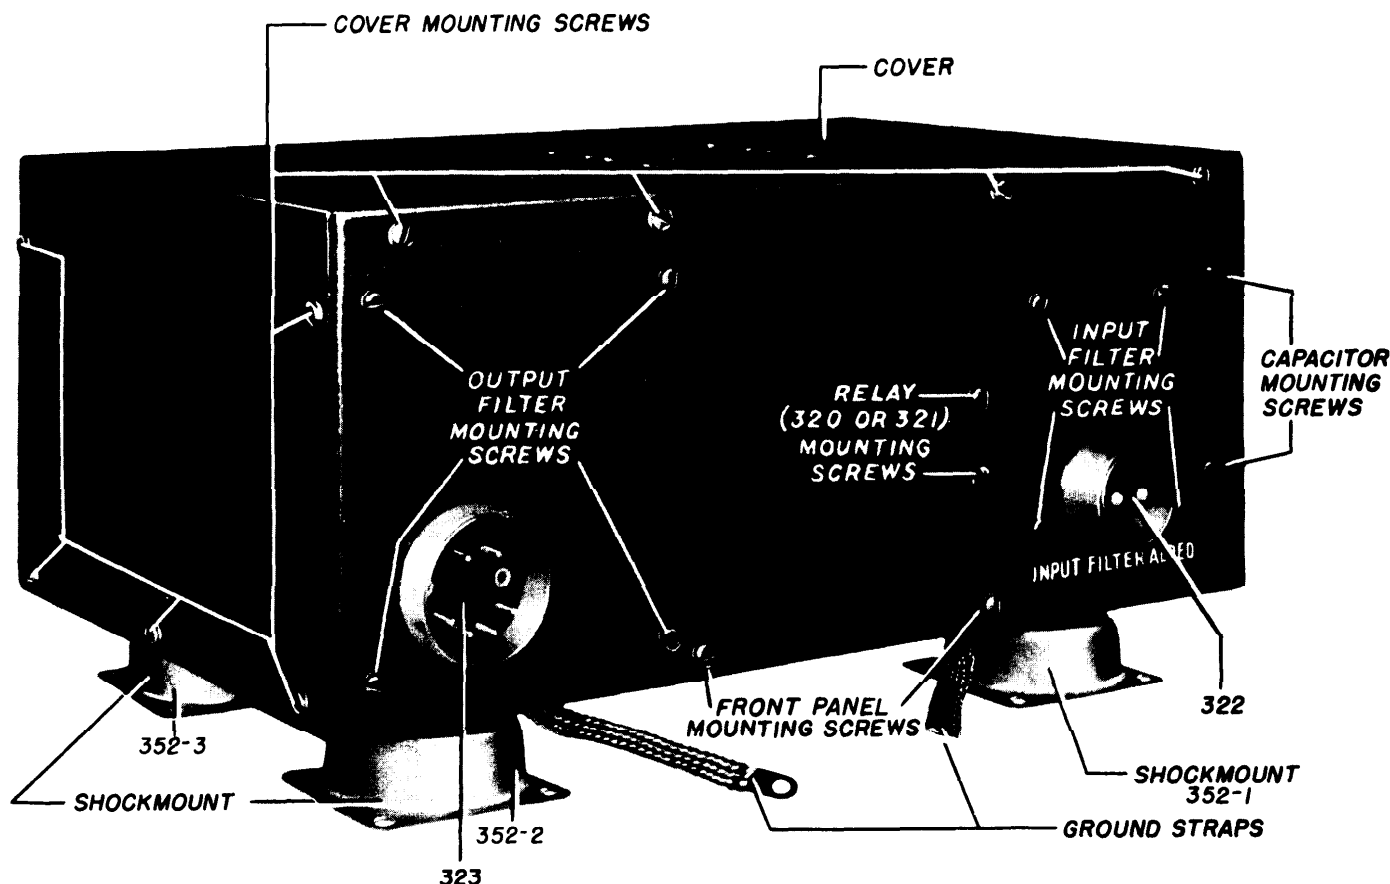

FIGURE 57 — DYNAMOTOR UNIT PE-94-A OR PE-98-A, FRONT OBLIQUE VIEW
The starting relay may be removed without first removing the front panel. Remove the interconnecting leads. Remove the two large binderhead screws (shown in Figure 57) which secure the relay to the front panel.
(a) The input filter may be removed without first removing the front panel. Remove the interconnecting leads and remove the four binderhead screws which secure the input filter to the front panel (see Figure 57).
(5) Removal of Output Filter
(a) Remove the front panel as in (2) above. Remove the four binderhead screws (see Figure 57) which secure the output filter to the front panel.